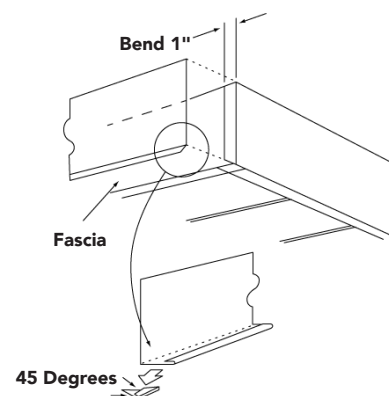

Figure 70
- At fascia inside and outside corners integrate a 1" tab. (Figure 70)